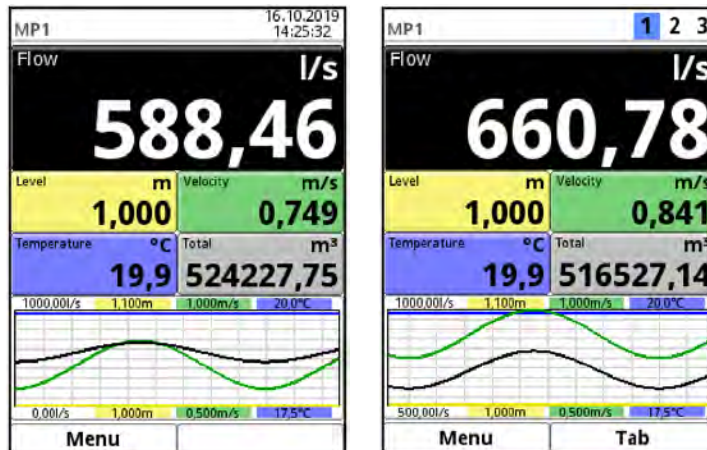

Fig. 31-2 Selected Screen Flow (right illustration for Type T4/G4/TM/GM)
- Date (alternatively 1, 2, 3; see Fig. 31-2)
- Time (alternatively 1, 2, 3; see Fig. 31-2)